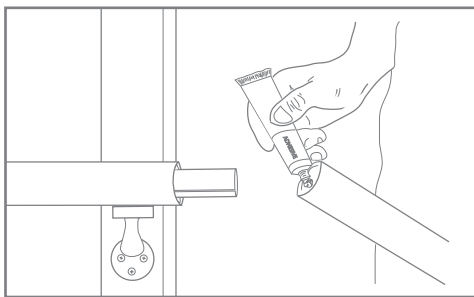

Fig. 9
- Apply aluminum adhesive and slide the internal joiner half way into the aluminum lineal - Fig. 9.